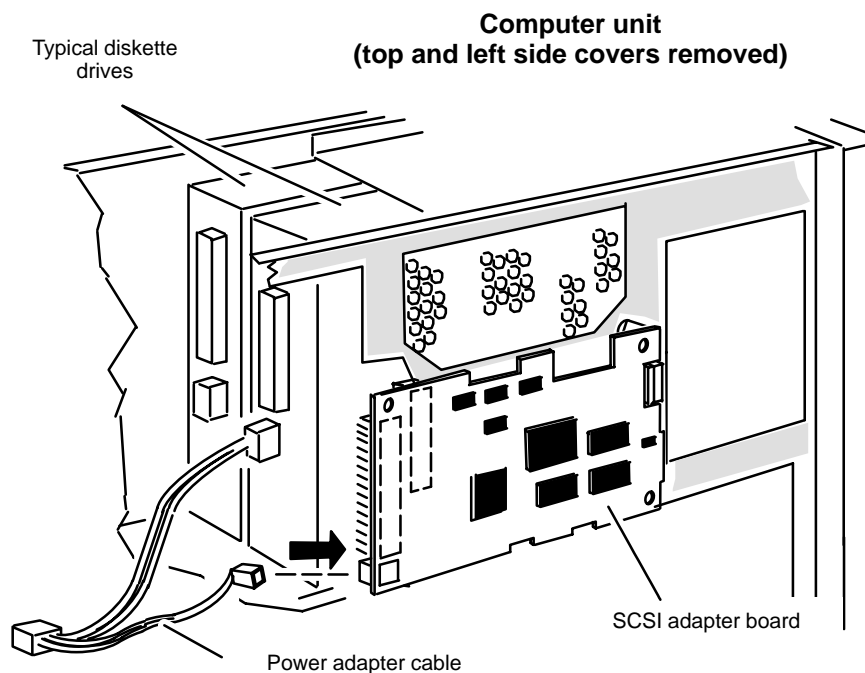

Figure 7-17 Plugging the Power Adapter Cable into the SCSI Adapter Board
3. Plug the power adapter cable into the SCSI adapter board as shown in Figure 7-17.